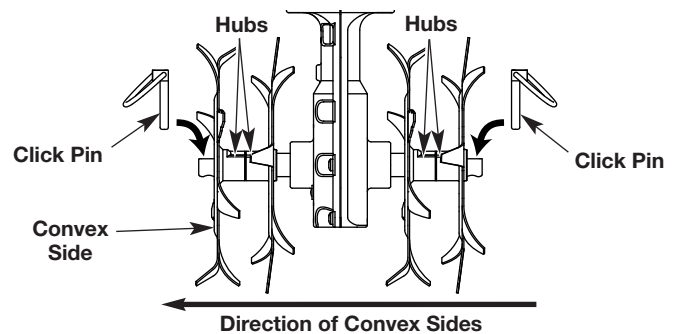

Fig. 8
3. Remove the click pins from each end of the tine shaft (Fig. 8). Slide the tines off of the shaft.
5. Slide on the new tines with the hubs facing in towards each other (Fig. 8).
**NOTE:** Each tine has a convex side. Make sure that all of the convex sides are facing as shown in Figure 8.
6. Secure the new tines to the shaft with click pins (Fig. 8).